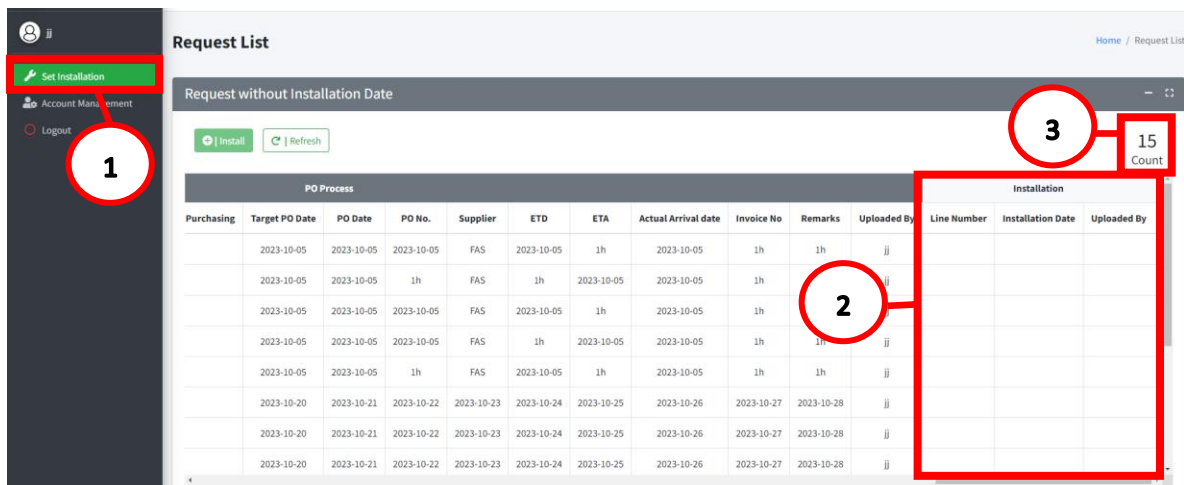

Figure 3.1
1. Click **Set Installation** button to access Main Form (See Figure 3.1).
2. Viewer has no installation date and line number yet. (See Figure 3.1).